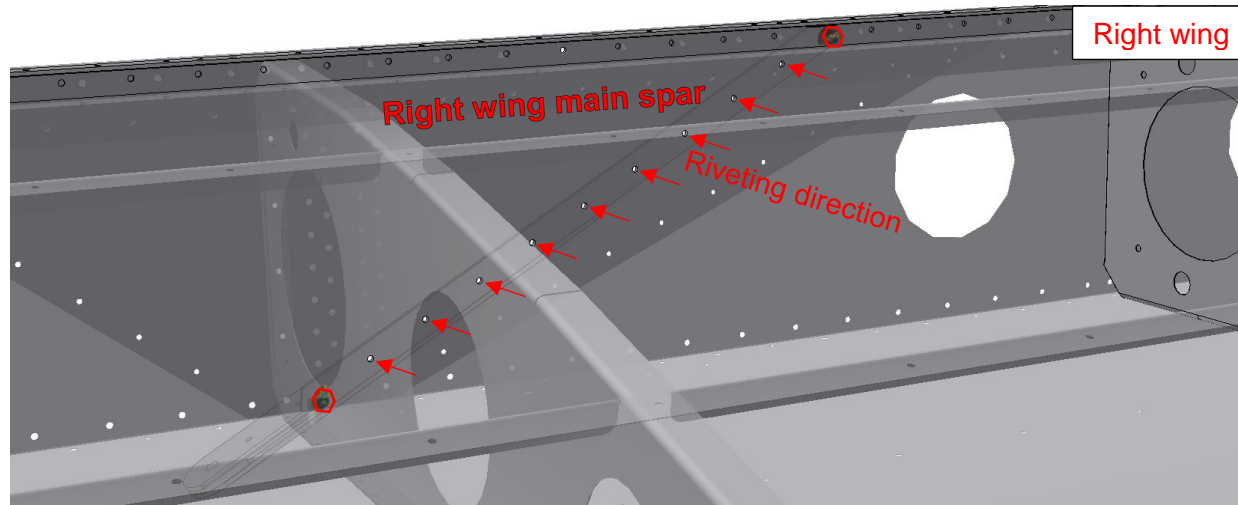

Figure 5: Right Wing, area of intervention from behind
- Install the new set of AN3 bolts with self-locking nuts and washers, like shown in *Figure 5* and;
ATTENTION: the head of the rivets must be oriented behind the spar, therefore the tail of rivets must be pressing on the extruded part, like shown in *Figure 5*;